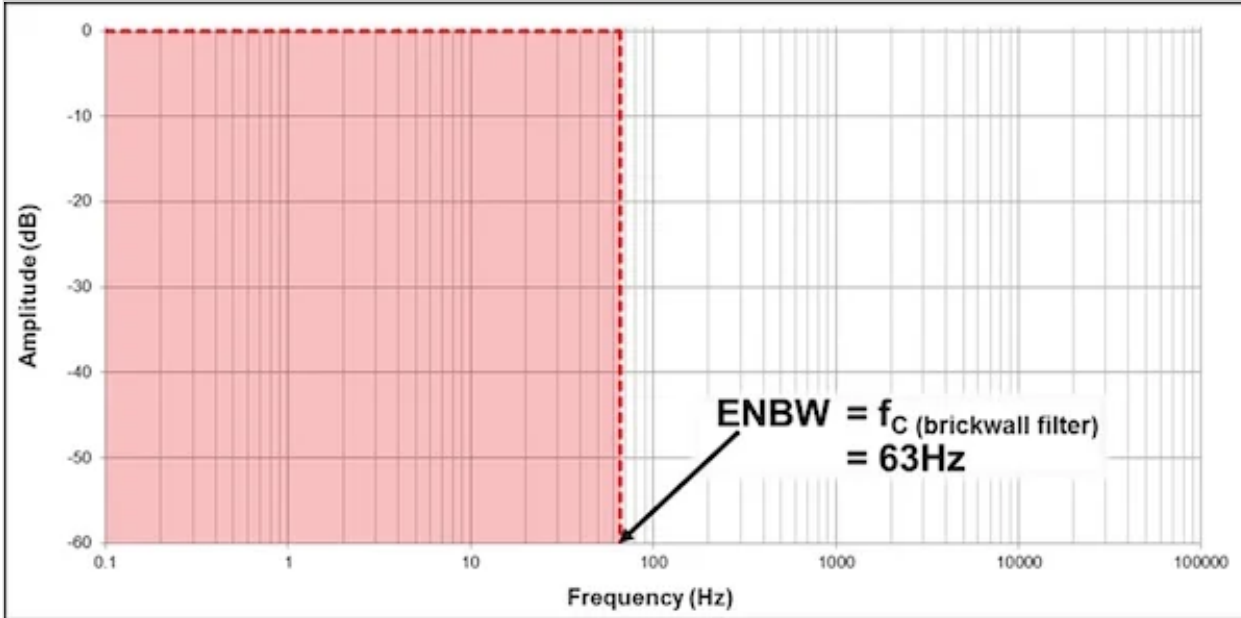

Figure 2. Single-pole RC filter response (top); ENBW plot for the RC filter (bottom)
As an example, let's simplify a single-pole, low-pass resistor-capacitor (RC) filter (Figure 2, top) into an ideal brick-wall filter (Figure 2, bottom). To do so, calculate the noise power under the actual filter response using integration. This calculated value is the original filter's ENBW, which then becomes the cutoff frequency, f_C , of an analogous ideal brick-wall filter.